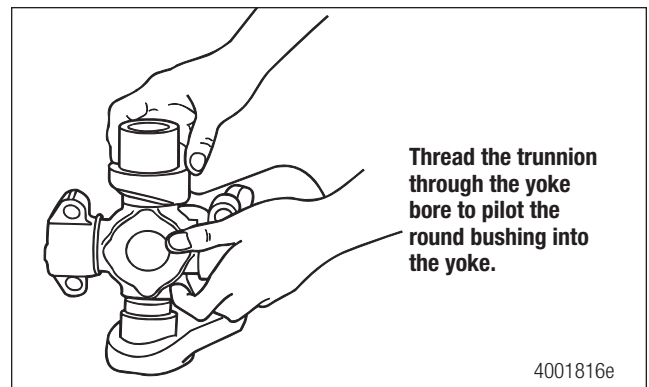

Figure 5.59
7. Position the second bushing onto the trunnion by threading the cross through the yoke bore as shown. Figure 5.59.